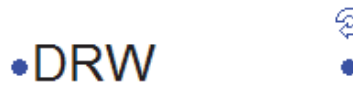

Figure 1–39
7. Rotate or stretch the label as needed (as shown in Figure 1–39), or select a point for an additional label.